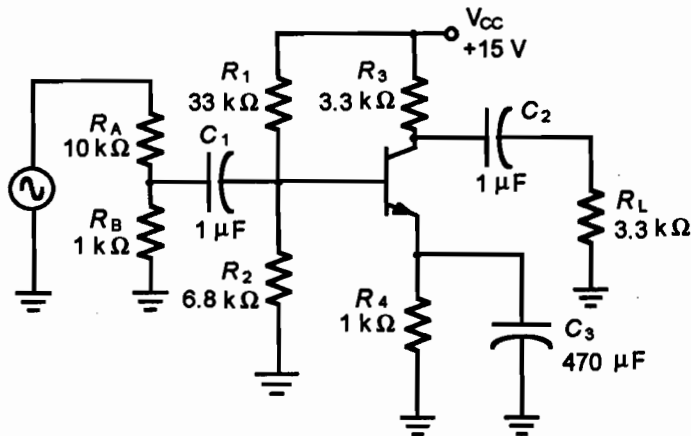

Figure 22.1
1. Construct the circuit in Figure 22.1
1. Starting with the circuit of Figure 22.1, place a jumper wire to short the output capacitor,  $C_2$ .